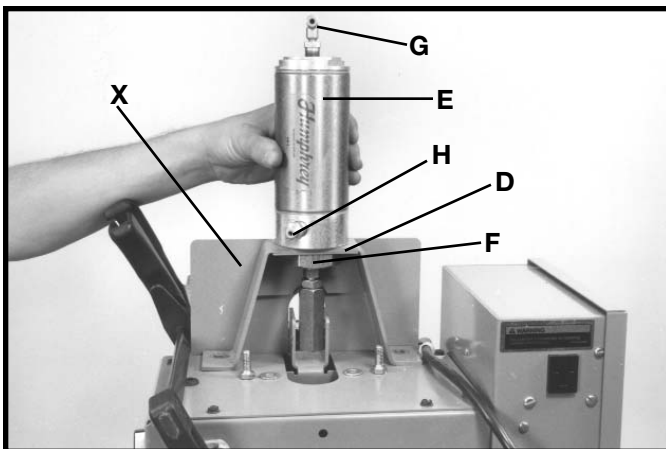

Fig. 26
3. Assemble end of air cylinder (E) Fig. 26, down through hole in top of bracket (D) and through hole in guard that was held in place in **STEP 2**. Using the 1-3/8" hex nut (F), fasten air cylinder in place by turning air cylinder (E) and nut (F). Make certain the guard that was held in place in **STEP 2**, does not contact the head assembly after tightening hex nut (F). **NOTE:** Air fittings (G) and (H) should point to the rear of the machine as shown. Make certain hex nut (F) is positioned so the flat on the nut is parallel to front of support bracket (D). **IMPORTANT: THE FLAT ON THE NUT (F) MUST BE PARALLEL TO THE FRONT OF SUPPORT BRACKET (D), IF NUT IS NOT PARALLEL TO THE SUPPORT BRACKET THE NUT WILL BIND AGAINST SLIDE PLATE (X) WHILE OPERATING.**